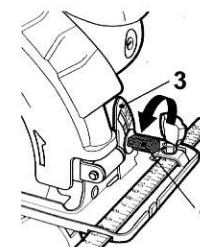

Fig. 5
- > Loosen the fixing screw (4) and tilt the housing to the desired angle. Use the angle scale (3) as a guide (Fig. 5).